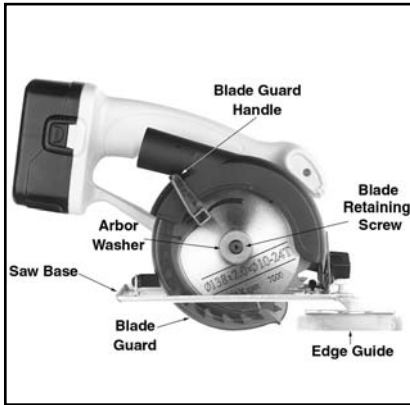

Fig 4. Blade side view.
From Figure 4:
4. To check the depth of cut compare the blade depth to the workpiece thickness and adjust saw base until one half of one tip of a tooth is exposed past the workpiece. Refer to **Figure 4 & 5**.